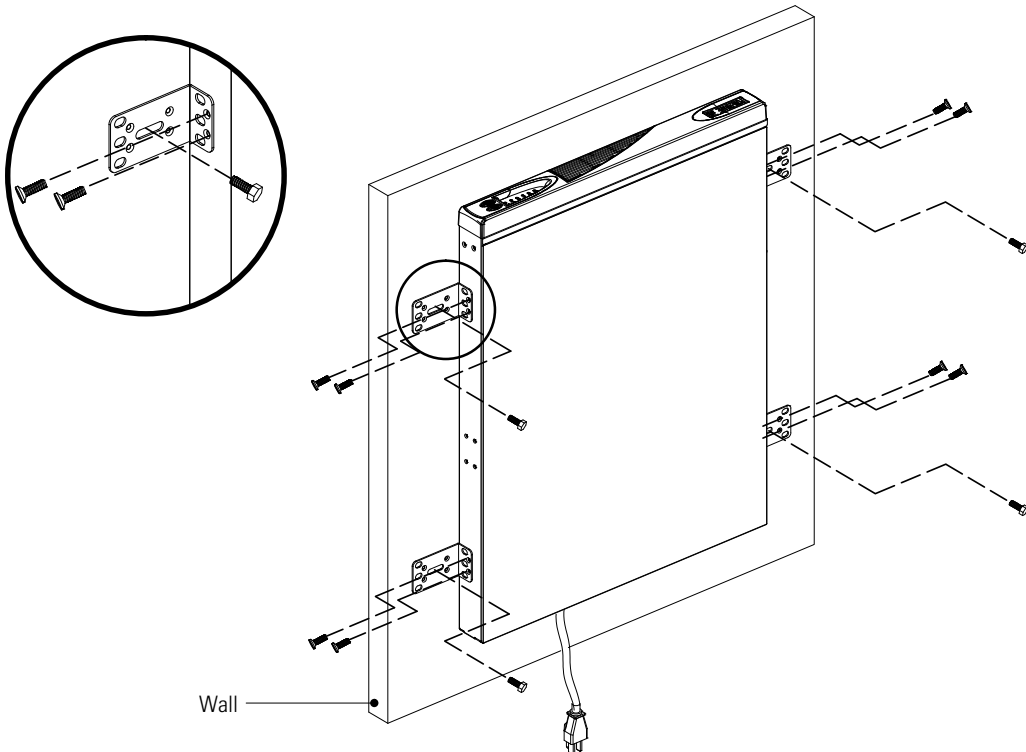

Figure 14. Mounting the UPS to a Wall
2. Attach four mounting brackets to the UPS as shown in Figure 14.